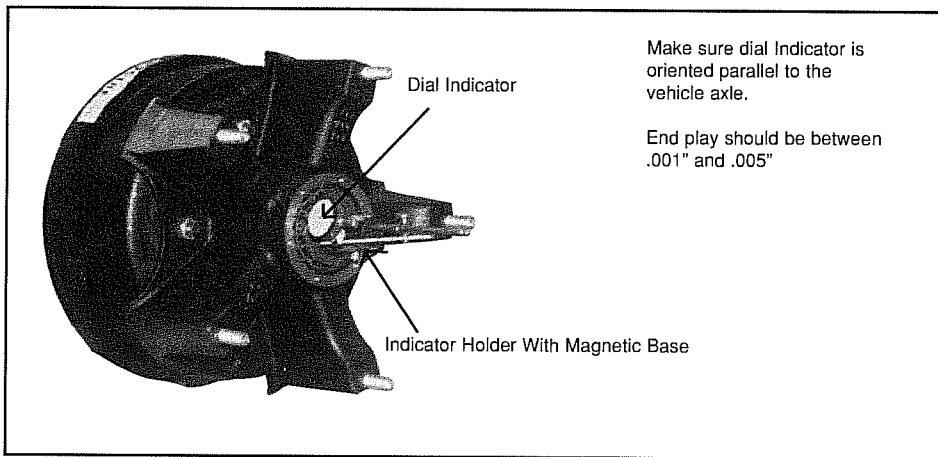

Figure III-6: Use of a dial indicator to check bearing adjustment.
- k. Check your bearing adjustment with a dial indicator, as shown in figure III-6. Adjustment should be within 0.001 to 0.005 inch end play. When the bearing adjustment is correct, the wheel should rotate freely without excess play. If the wheel binds or shows excessive end play, repeat the proper portion of step j (Page 44).
- l. Install the hub cap with proper gasket. Tighten the cap screws of the hub cap to fifteen (15) to twenty (20) foot-pounds of torque.